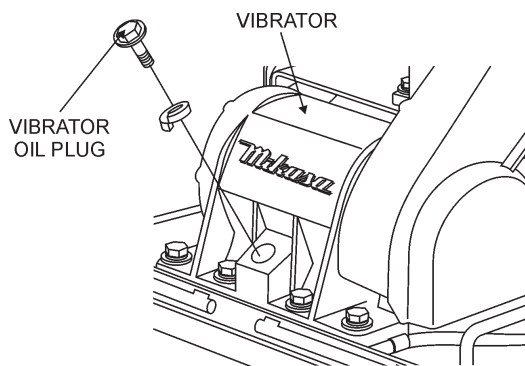

Figure 7. Vibrator Oil Plug
2. Check vibrator oil level by removing the plug (vibrator oil gauge) as shown in Figure 7. The oil level should be up to the oil plug. The vibrator holds 140 cc (approximately 4 oz).